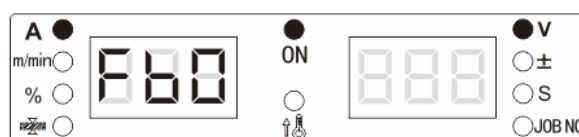

Fig. 4-16 FB0 Display Interface
- Enter into the internal function, and adjust left panel knob to FB0 (shown in figure 4-16).